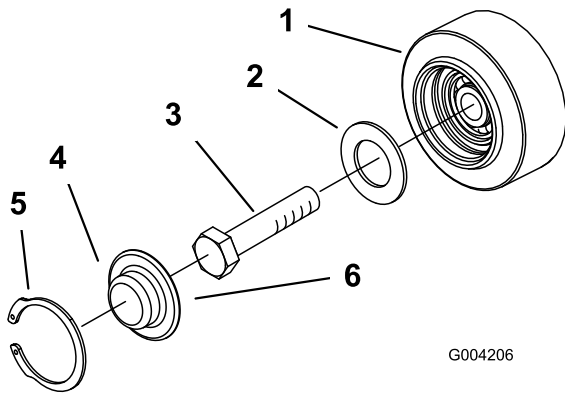

Figure 49
3. Remove the snap ring and cap from a road wheel (Figure 49).
4. Check the grease under the cap and around the gasket (Figure 49). If it is dirty, gritty, or depleted, clean out all of the grease, replace the gasket, and add new grease.